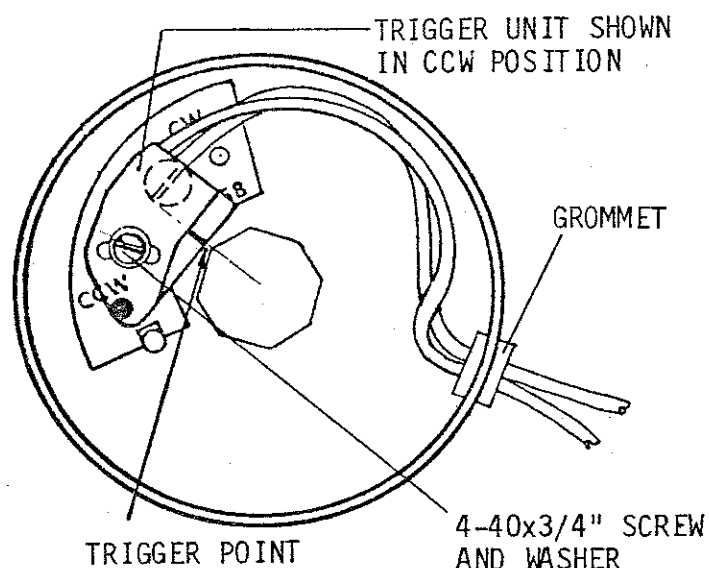

FIGURE 2
- () 3. Install the trigger unit with the 4-40x3/4" screw and compression washer. Do not tighten the screw yet. Be sure the trigger unit is in the correct holes for the rotation direction of the distributor. See figure 2.